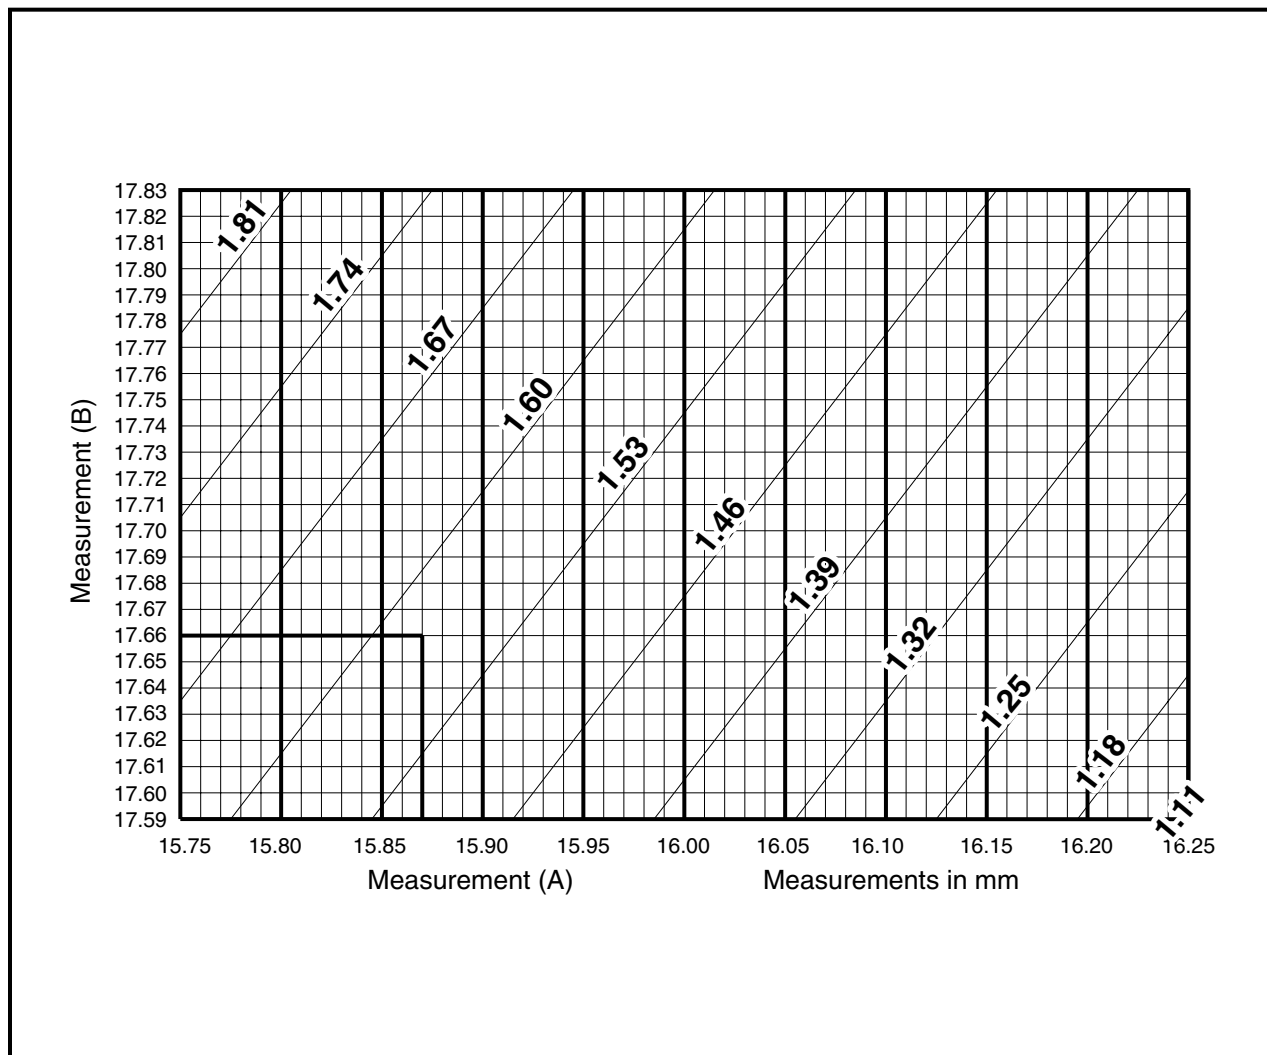

Figure 13-101 Crankshaft Shim Table
3. Locate the measurements on the Crankshaft Shim Table. Follow lines to where the recorded measurements intersect (Figure 13-101, Page 13-46).
4. Choose the next smaller shim from the table. Example: Measurement A is 15.87 mm and B is 17.66 mm. The correct crankshaft shim is 1.53 mm (Figure 13-101, Page 13-46). See following NOTE.